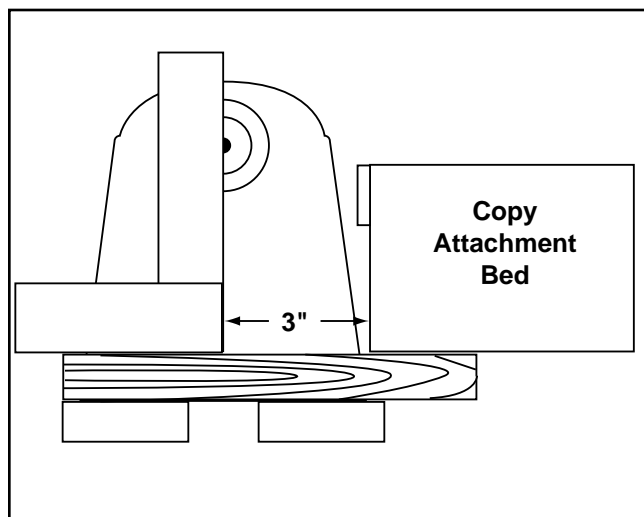

Figure 4. Use of gauge boards for alignment.
2. Place a machinist's square on top of the wood and measure 3" toward the Copy Attachment bed. **See Figure 4.** Place a precise mark across the width of the wood. Repeat the process with another piece of wood at the headstock.